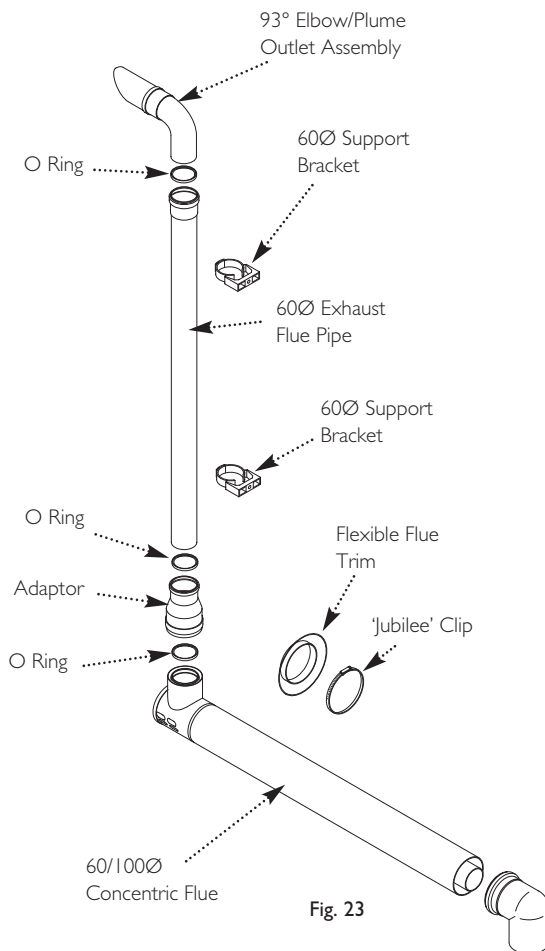

Fig. 23
9.1 Plume Displacement Kit (Fig. 23)
13. Mark and drill the 60Ø exhaust, using a 2mm bit, as shown in Fig. 23. Complete the installation of the 60Ø exhaust, securing in the brackets.